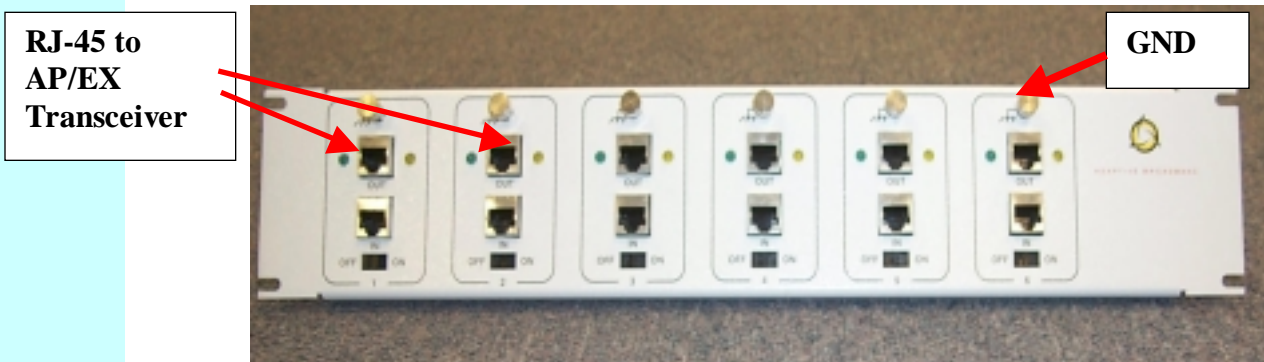

Figure 6-14 Access Panel showing Connections to AP/EX
16. Secure the interconnect cable to the mounting pole with the cable clip as shown in Figure 6-14.
8. Grounding all the outdoor transceivers as shown in Figure 6-14.